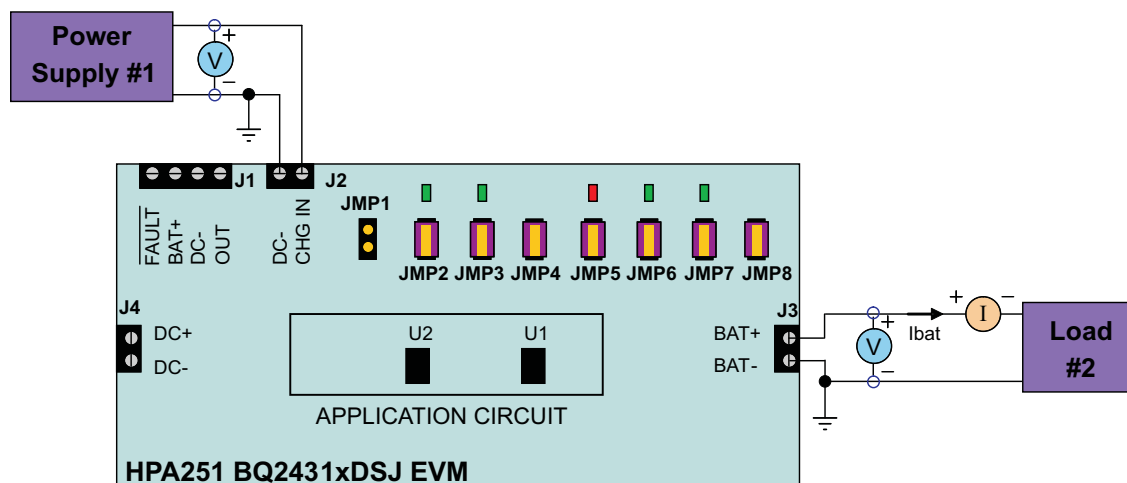

Figure 2. Charger IC Test Setup for HPA251 (bq2431x DSJ EVM)
7. After the preceding steps, the test setup for HPA251 (bq2431x DSJ EVM) is as shown in Figure 2.